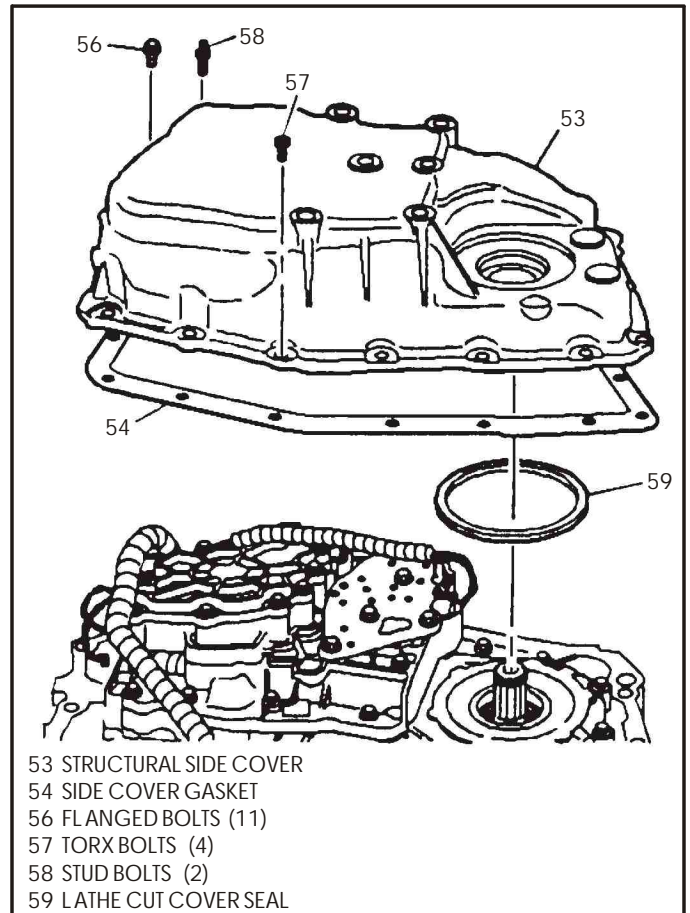

Figure 44
1. Rotate the transaxle so that the side cover is facing up, as shown in Figure 44.
2. Remove 11 flanged bolts, 2 stud bolts, and 4 Torx bolts that are retaining side cover, shown in Figure 44.
3. Remove and discard side cover gasket and seal as shown in Figure 44.